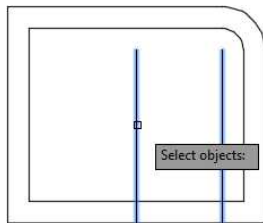

FIGURE 2.32: Lines selected to be cutting edges
2. Pick the two vertical offset lines that were just extended as your cutting edges, and then press ↵ (see Figure 2.32).